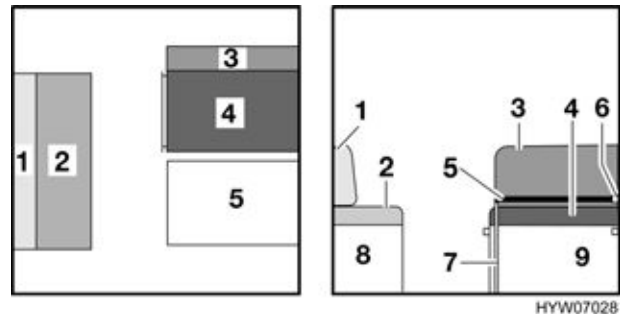

Fig. 87 Prior to conversion
- Remove the back cushion (Fig. 87,1) and the seat cushion (Fig. 87,2) of the divan and lay them aside.